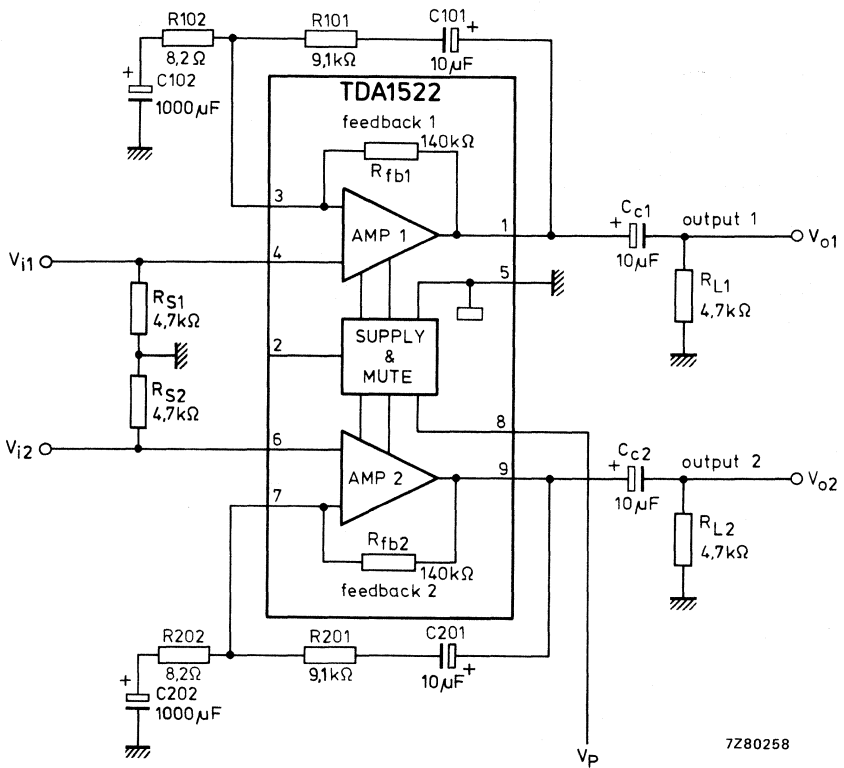
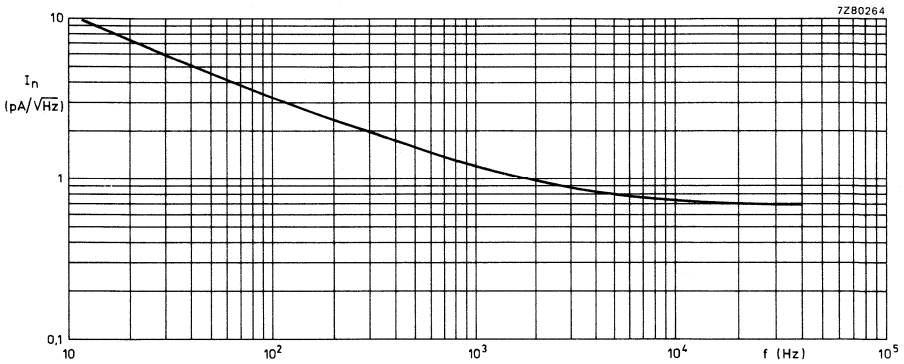

Fig. 4 Test circuit for noise measurement.
Fig. 7 Noise input current as a function of frequency.
* Measured in Fig. 4. ** See also Fig. 6. \blacktriangle See also Fig. 7.